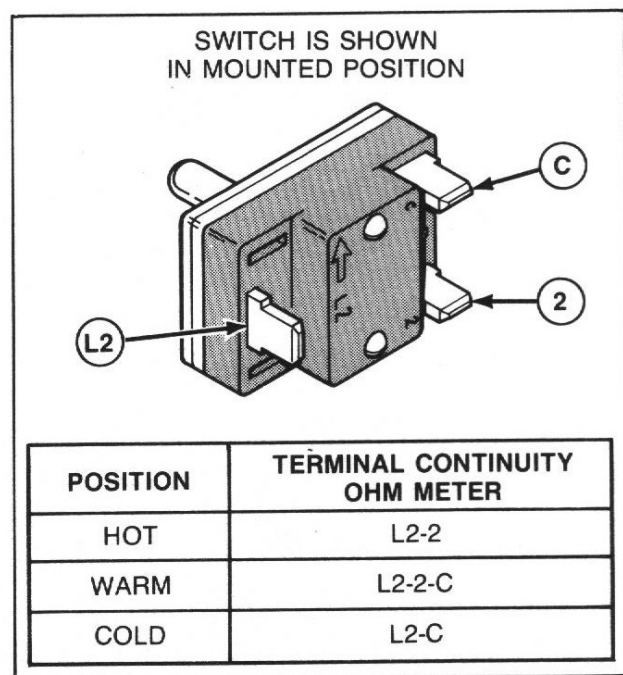

Figure 50
- c. Apply meter probes to terminals indicated in Figure 50 for continuity check.